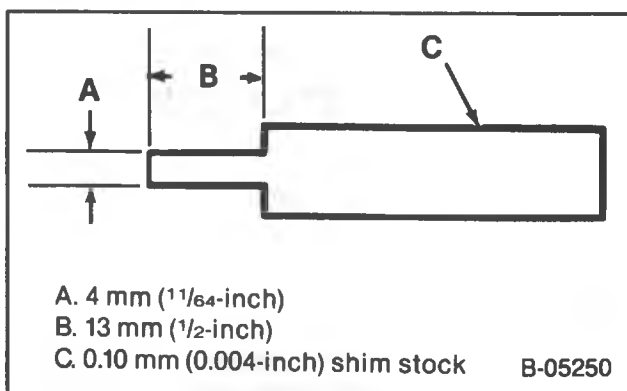

Figure 20 — Oil Seal Installation Tool
Install or Connect (Figures 20, 21, and 22)
- An oil seal installation tool (figure 20) should be fabricated (if not provided in the seal kit) to prevent seal damage during installation. Extreme care should be taken when installing this seal to protect the sealing bead located in the channel on the outside diameter of the seal.